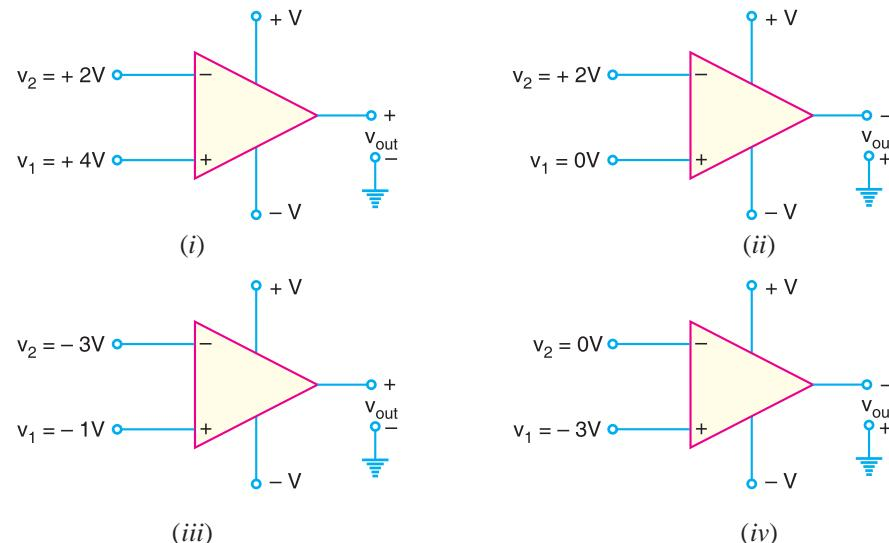

Fig. 25.41
- (i) In Fig. 25.41(i),  $v_1 = +4V$  and  $v_2 = +2V$  so that  $v_{in} = v_1 - v_2 = (+4V) - (+2V) = 2V$ . Since  $v_{in}$  is *positive*, the OP-amp output voltage will be *positive*.
- (ii) In Fig. 25.41 (ii),  $v_1 = 0V$  and  $v_2 = +2V$  so that  $v_{in} = v_1 - v_2 = (0V) - (+2V) = -2V$ . Since  $v_{in}$  is *negative*, the OP-amp output voltage will be *negative*.
- (iii) In Fig. 25.41 (iii),  $v_1 = -1V$  and  $v_2 = -3V$  so that  $v_{in} = v_1 - v_2 = (-1V) - (-3V) = 2V$ . Clearly, the OP-amp output voltage will be *positive*.
- (iv) In Fig. 25.41 (iv),  $v_1 = -3V$  and  $v_2 = 0V$  so that  $v_{in} = v_1 - v_2 = (-3V) - (0V) = -3V$ . Therefore, the OP-amp output voltage will be *negative*.